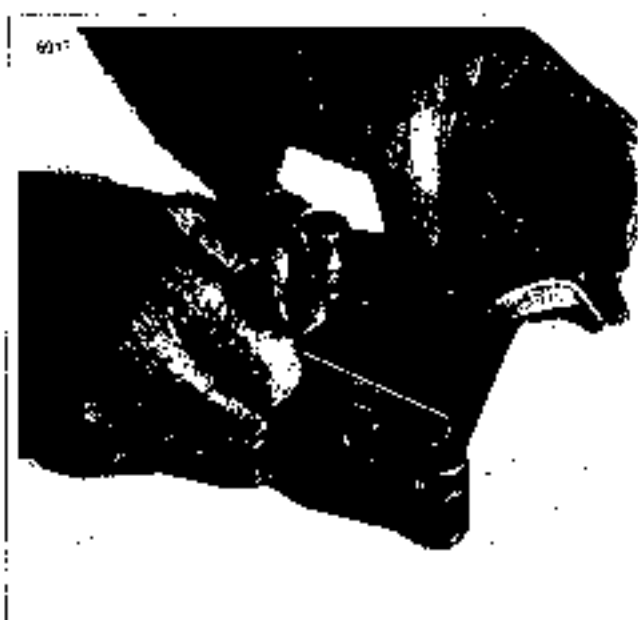

Figure 3-87. Check End Play
3. See Figure 3-87. Check for proper end play.